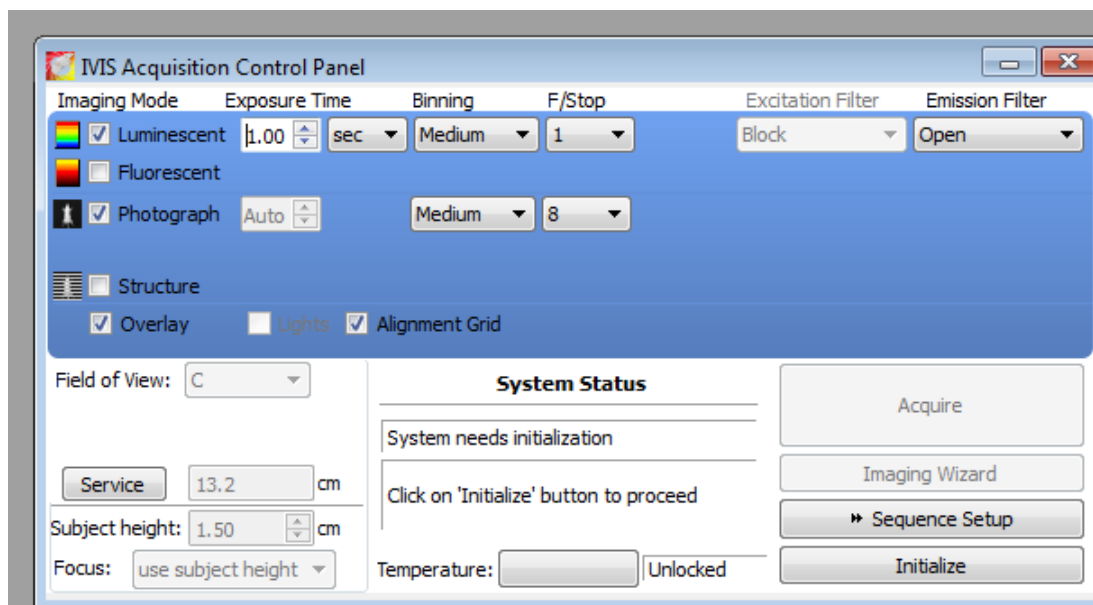

Figure 7: The figure above shows the Ivis initialization window.
3. Click the 'Initialize' button within the software pop up window. This will initialize the hardware by homing the stage and cooling the camera. The status of the camera is denoted by the red/green bar at the bottom of the window. See Figure:7